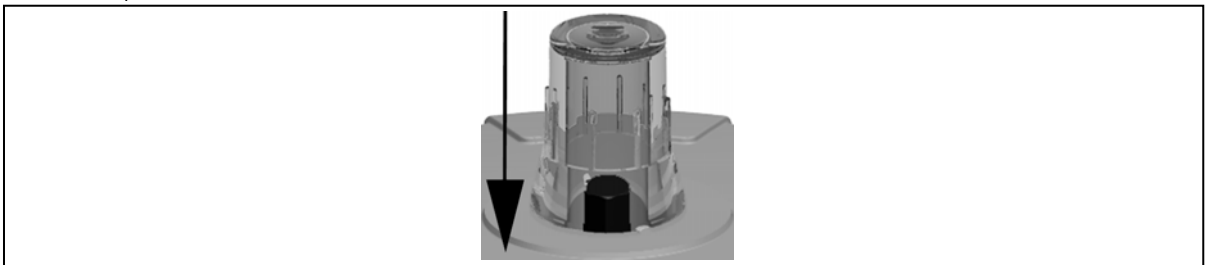

Fig. 22
- Move actuator in “closed” position, see fig. 22.